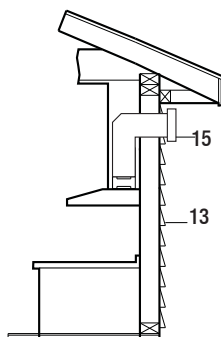
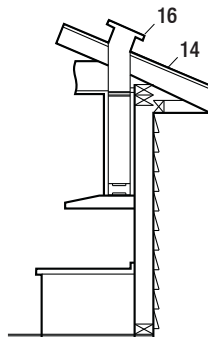

Fig. 3
Fig. 4
You must use a top venting system that vents to the outdoors as shown in Fig. 3 and Fig. 4.
- Your venting system must vent to the outdoors either horizontally through the back wall (13) or vertically through the roof (14) (refer to Fig. 3/Fig. 4).